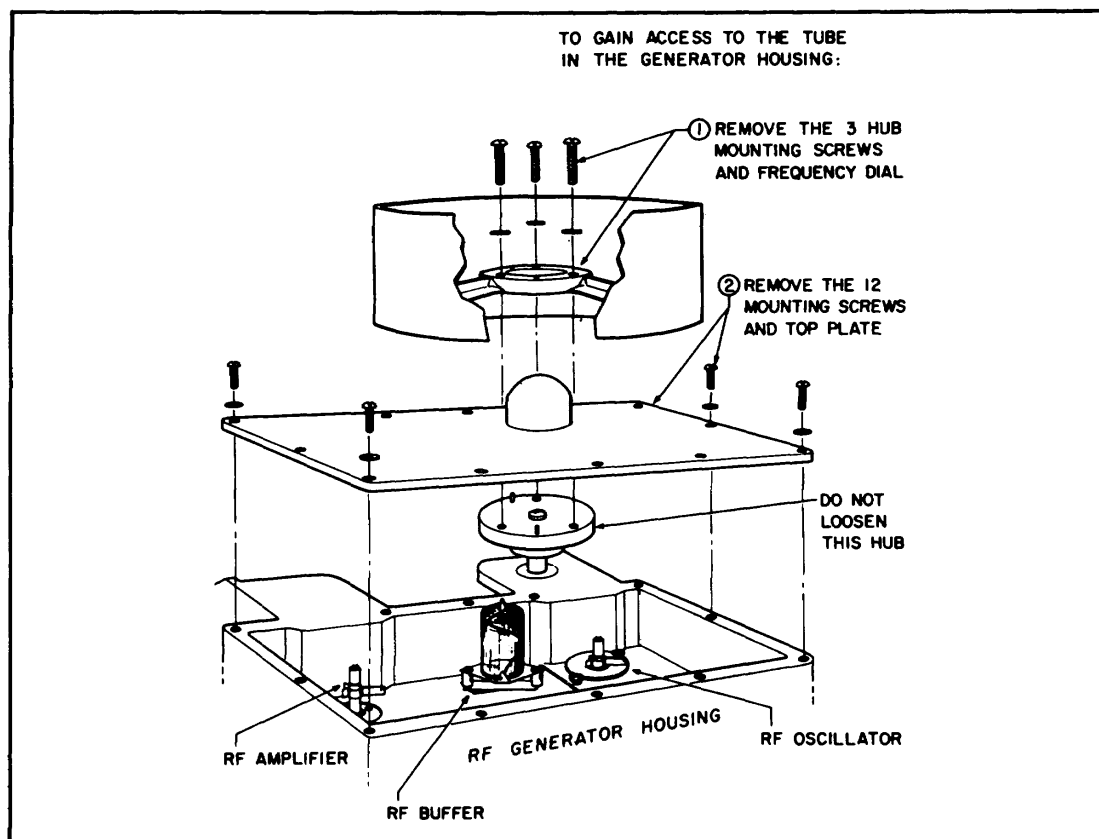

Figure 6-1. Diagram Showing Access to R-F Oscillator, Buffer and Amplifier Tubes
- To gain access to the r-f tubes, remove signal generator from cabinet and remove frequency dial and tube compartment top plate as shown in Figure 6-1.
a. With signal generator removed from cabinet, refer to Figure 6-1 and remove frequency dial assembly.